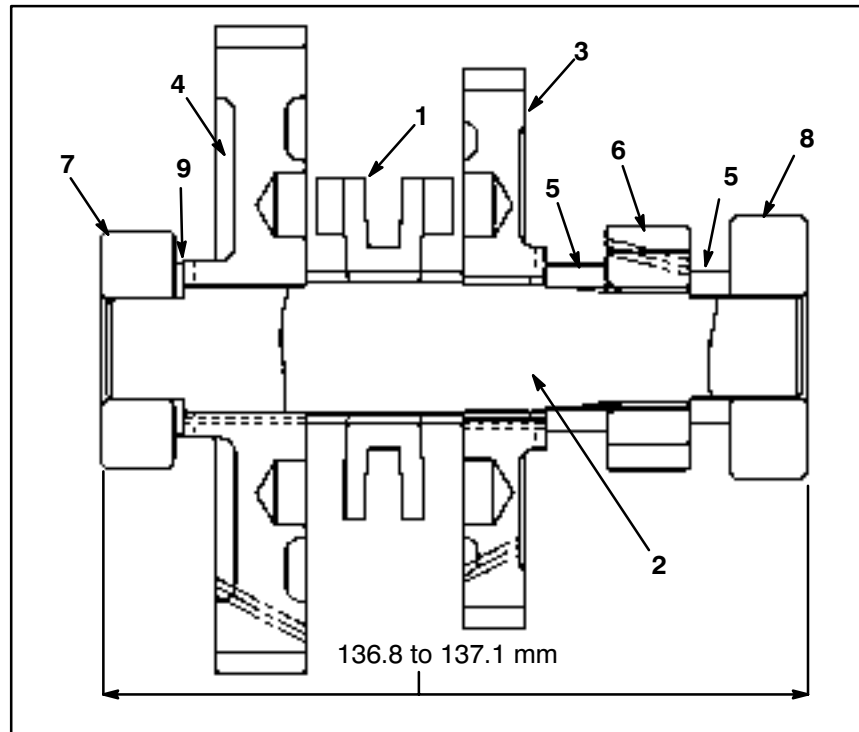

Figure 51
C. Make sure distance from one ball bearing outer edge to the other ball bearing outer edge is 136.8 to 137.1 mm (Fig. 51).